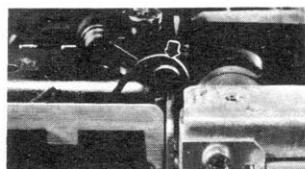

Fig. 27
- 4) Arrange the relay belt on the mechanism boss. (Refer to Fig. 27)